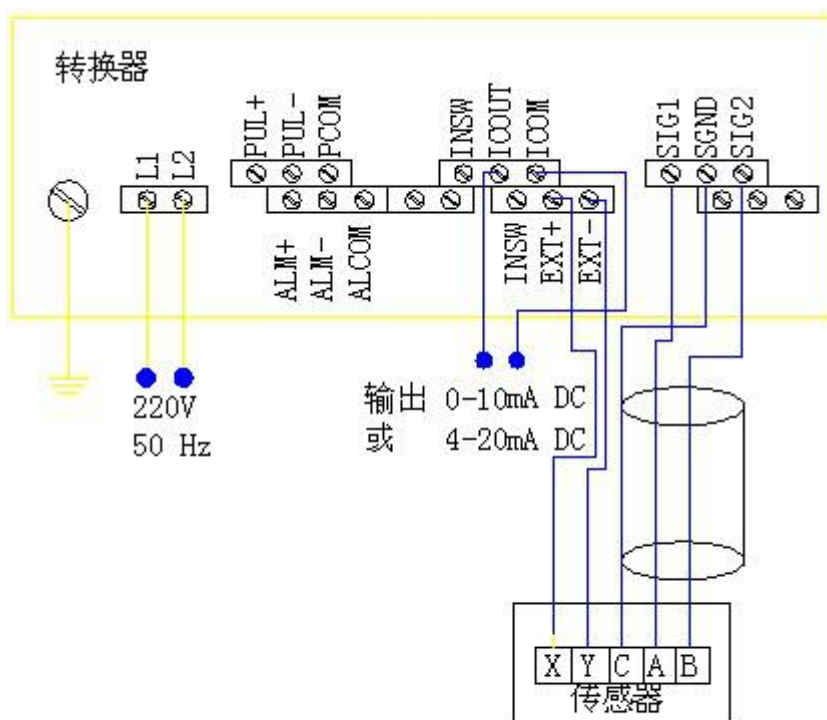

图4 接线图
Figure 4 shows the electrical wiring diagram
① Signal cables should not be laid in parallel with external high-current power cables at close distances. Signal cables should generally be electrically shielded from external cables through threaded steel pipes. The threaded steel pipe should be connected to the earth wire.
② When laying in the open, there should be a distance of more than 1 meter between the signal cable and the power cable. The signal cable and the excitation cable should also keep a certain distance. When laying through steel pipes, the excitation cables should also be placed through the pipes.
③ The distance between the sensor and the converter is generally 50 meters. If you need to extend the cable under special circumstances, you should contact our factory. The model of signal cable and excitation cable provided by our factory is RWP double-core polyvinyl insulated shielded sheathed cable, the specification is  $2 \times 32/0.2$  outer diameter  $\Phi 8\text{mm}$ , and the length is 15 meters. For special requirements, please indicate to our factory when ordering.
④ The factory is not responsible for the converter's power supply line and output current and frequency cables. Since the load current required by these two cables is only tens to hundreds of milliamps, and the transmission distance is related to the distance from the field to the control room, users can prepare the power supply and output signal cables according to actual needs.
⑤ Connect the wires in a one-to-one correspondence with the converter and sensor terminal identifiers shown in Figure 4.